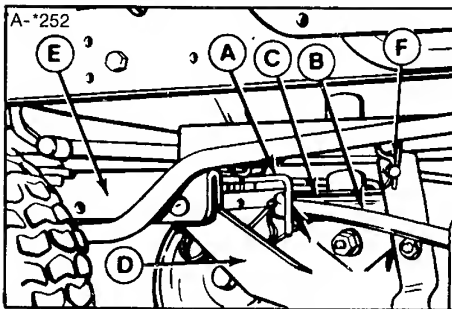
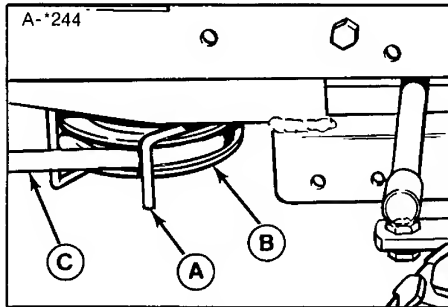
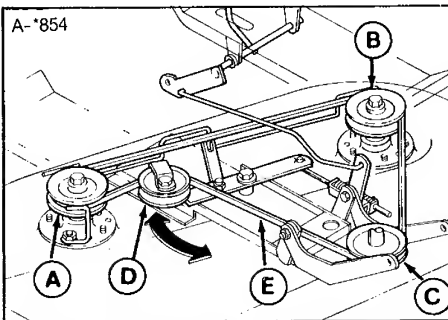

Figure 4. Left-Hand Belt Stop
Figure 5. Right-Hand Belt Stop
Figure 6. Mower Belt Pattern - 36"
6. Slip the mower drive belt onto the PTO pulley (C, figure 4). Loosen belt stops as necessary. The left-hand belt stop (A) is shown in figure 4. The right-hand belt stop is shown in figure 5. Check routing of belt by referring to figure 6.